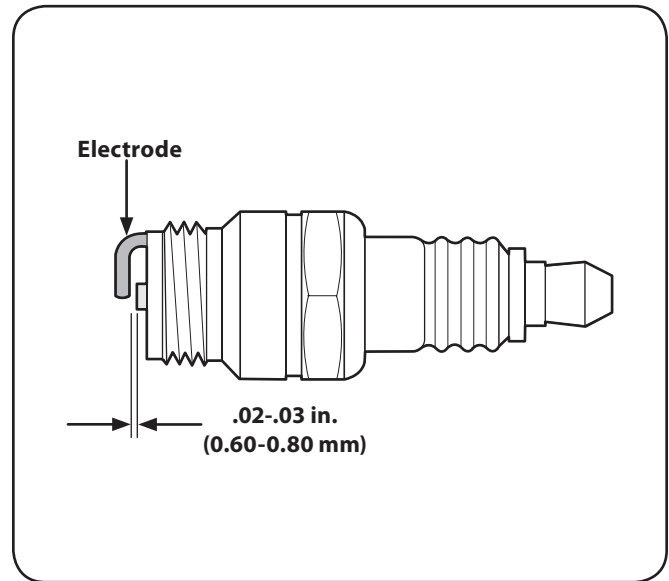

Figure 7-4
- Measure the plug gap with a feeler gauge. Correct as necessary by bending the side electrode, Fig. 7-4. The gap should be set to .02-.03 inches (0.60-0.80 mm).